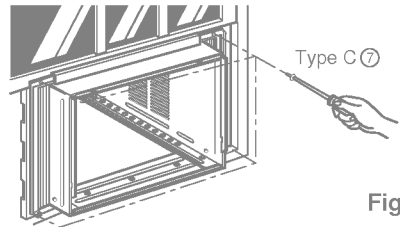

Fig. 6
- Pull each Frame Curtain ① fully to each window sash track, and repeat step 2.
- Attach each Frame Curtain ① the window sash using screws ⑦ (Type C). (See Fig. 6)